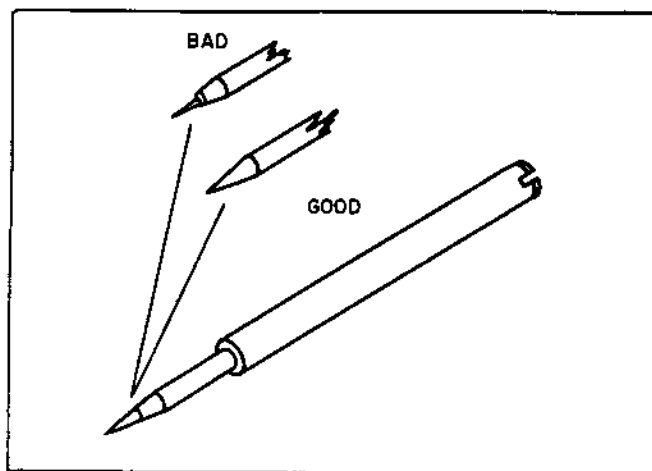

Figure 2-13. Comparison of a Good and Worn Needle Valve
- (1) Check adjustment screw tip for damage. If ridge ring on seat area can be felt with thumb nail, needle must be replaced. See Fig. 2-13.
- (2) Three screws must be adjusted before attempting to operate a newly overhauled carburetor.